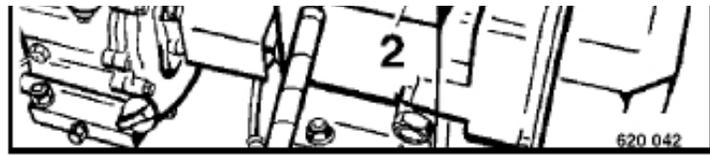

Fig. 54
- | Remove the cover from the transmission and unscrew the filler plug 1 (Fig. 54).
- 1 Fill in new transmission oil through the filler bore 2 (Fig. 54).